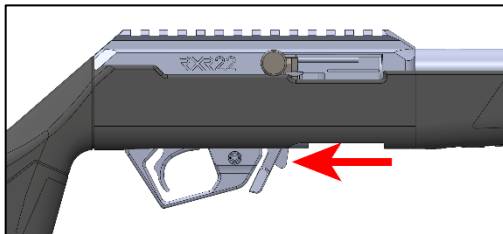

Figure 17
- To lock the bolt in the open position, pull fully rearward on the cocking handle. Press rearward on the bottom of the bolt lock and allow the bolt to move slightly forward from the rearmost position - Figure 17.